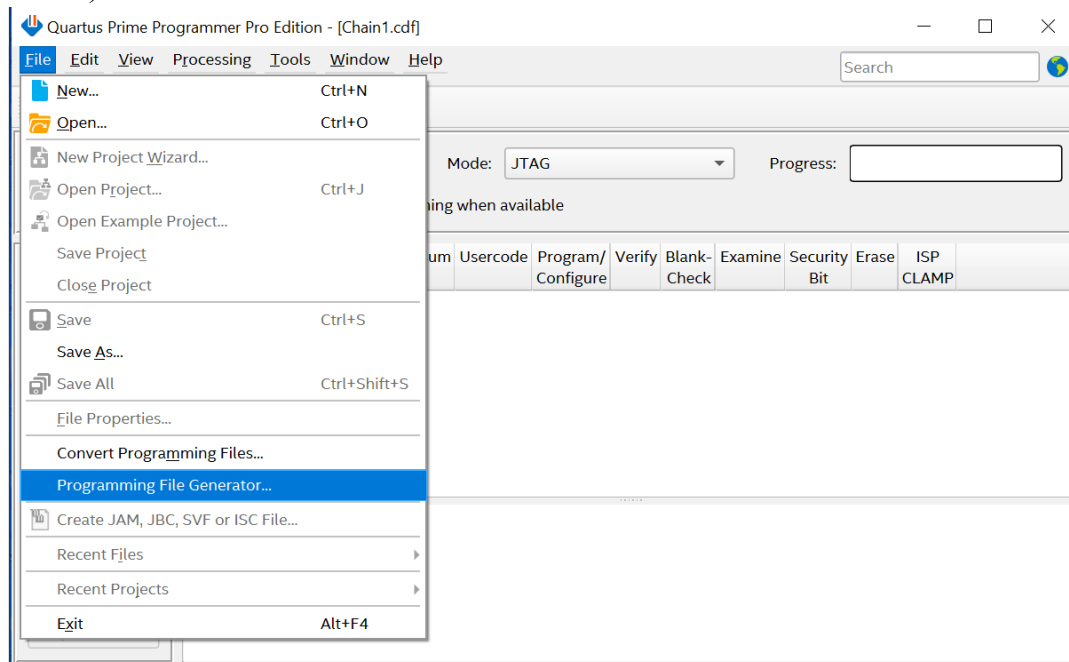

Figure 5-5 Open the Programming File Generator
1. Open the Quartus Prime Programmer and select **File ➔ Programming File Generator...** (see Figure 5-5).